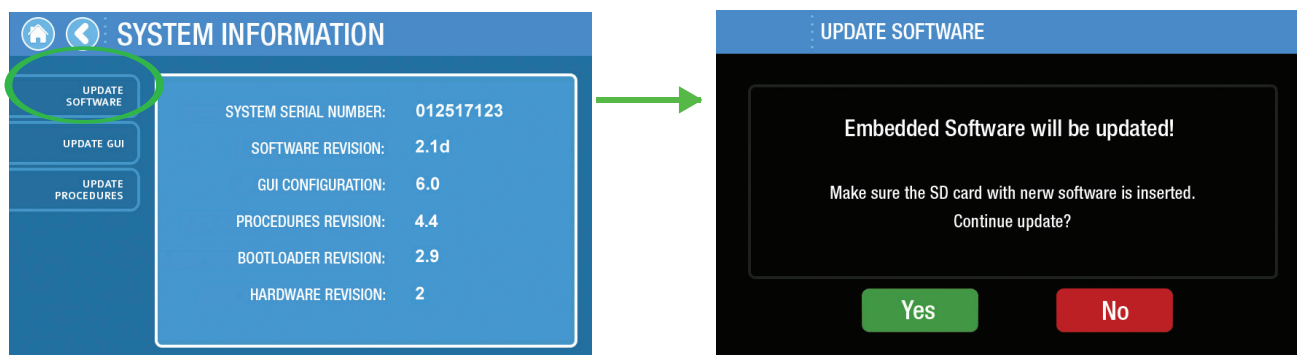

Figure 8.26
- The screen will display a confirmation screen before initiating the update (Figure 8.26)